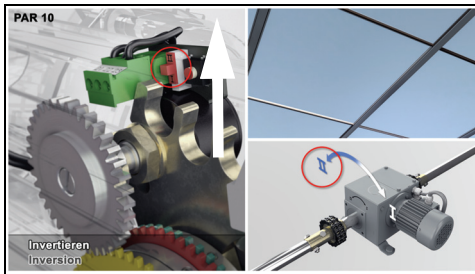

Fig. 25
- ▶ Set the switch to position “CCW/II” when the first rotation direction is “II” (see Fig. 25).